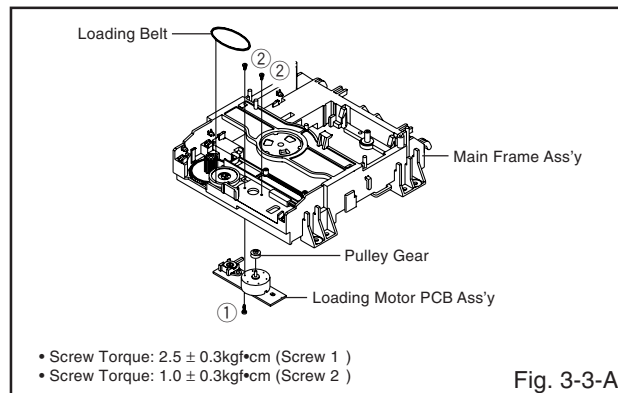

Fig. 3-3-A
3-3: LOADING MOTOR PCB ASS'Y/ LOADING BELT (Refer to Fig. 3-3-A)
1. In case of the Pulley Motor installation, check if the value of the Fig. 3-3-B is correct.
2. When installing the Loading Motor PCB Ass'y, install it correctly as Fig. 3-3-C.
3. In case of the Loading Motor PCB Ass'y installation, hook the wire on the Main Frame Ass'y as shown Fig. 3-3-C.